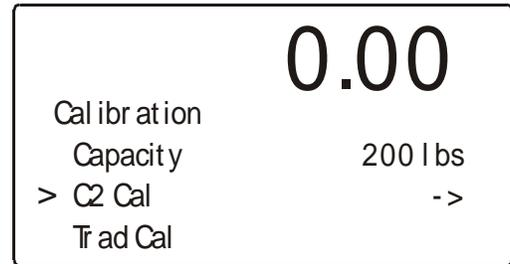

FIG. 2-36 CALIBRATION/
- Step 7. Press the Enter button to set the entry. Press the “-” button until the cursor is in front o “C2 Cal”. See Fig. 2-36)